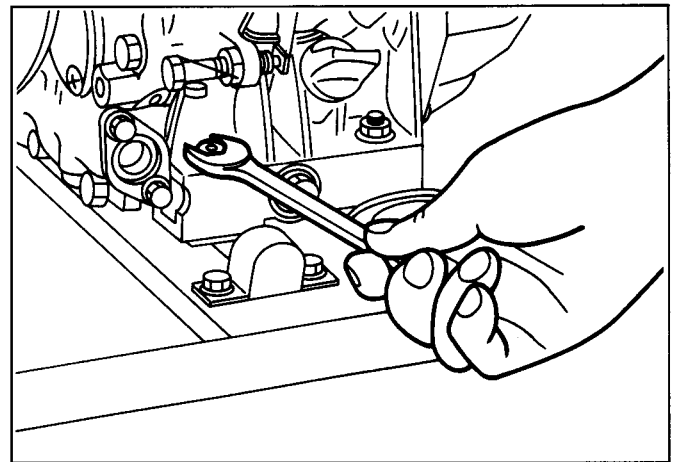

Fig. 10-40
- (11) Adjust the position of SHAFT (STOPPER) so as its both ends are placed in the center of the STOPPERS, then tighten the flange nuts to fix the SHAFT (STOPPER). (See Fig. 10-40.)